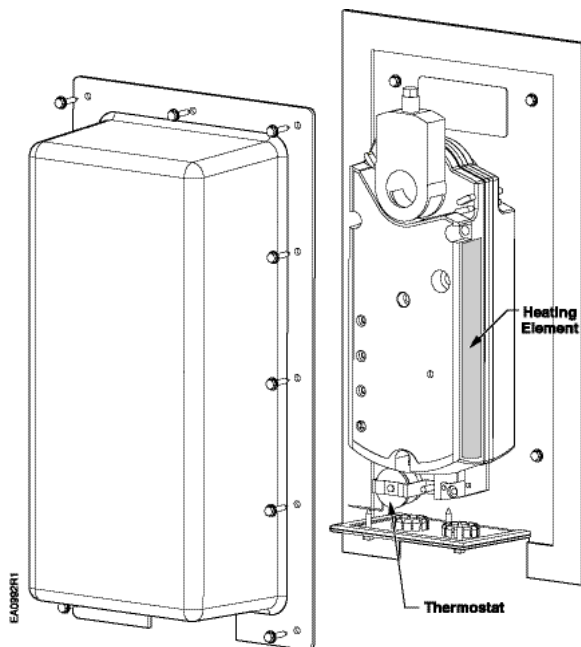

Figure 3.
2. Mount heater thermostat over threaded studs on Weather Shield base plate using the nuts provided. See *Figure 3*.
4. With the front of the actuator facing you, affix the heater element to upper housing of the actuator on the right side. See *Figure 3*. No wire polarity is required for heater or thermostat.